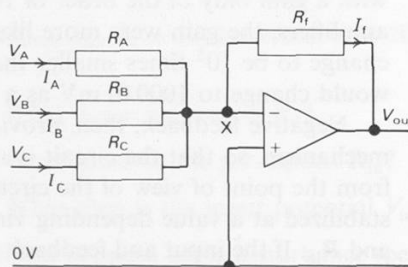

Figure 163
20(L) Consider the circuit in figure 163.